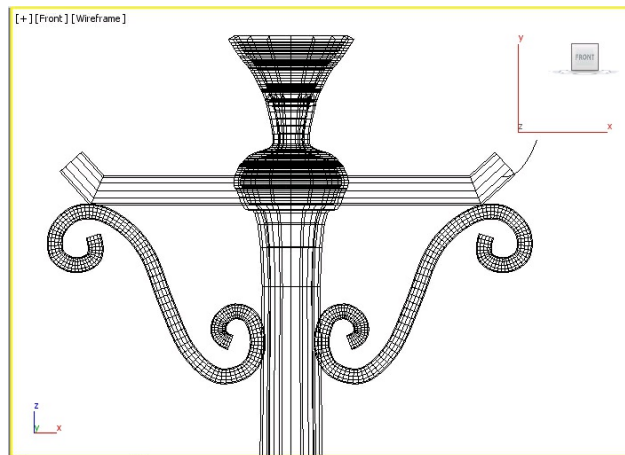

Figure 6-64 New line created
2. In the **Rendering** rollout, clear the **Enable In Renderer** and **Enable In Viewport** check boxes and create a new line in the Front viewport, refer to Figure 6-64.